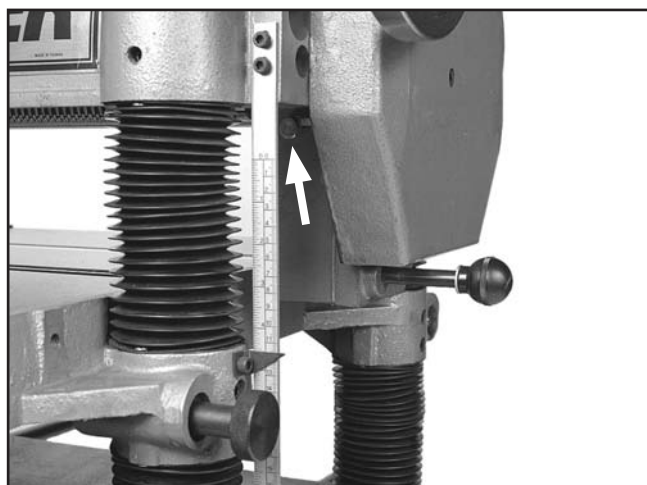

Figure 8. Gearbox fill plug location.
1. Remove the gearbox fill plug (**Figure 8**).